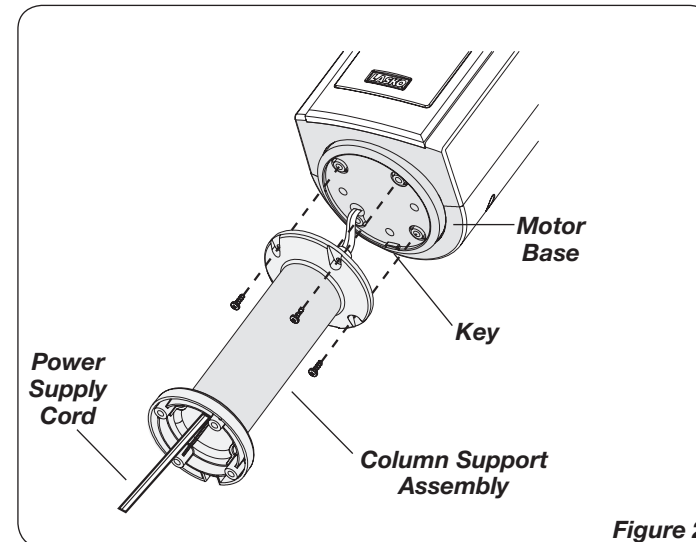

Figure 2
2. Attach the **Column Support Assembly** to the **Motor Base** with (4) M5 X 13mm Screws. Make certain to align the **Key** on the **Motor Base** with the **Locating Notch** on the **Column Support Assembly**. (Figure 2)